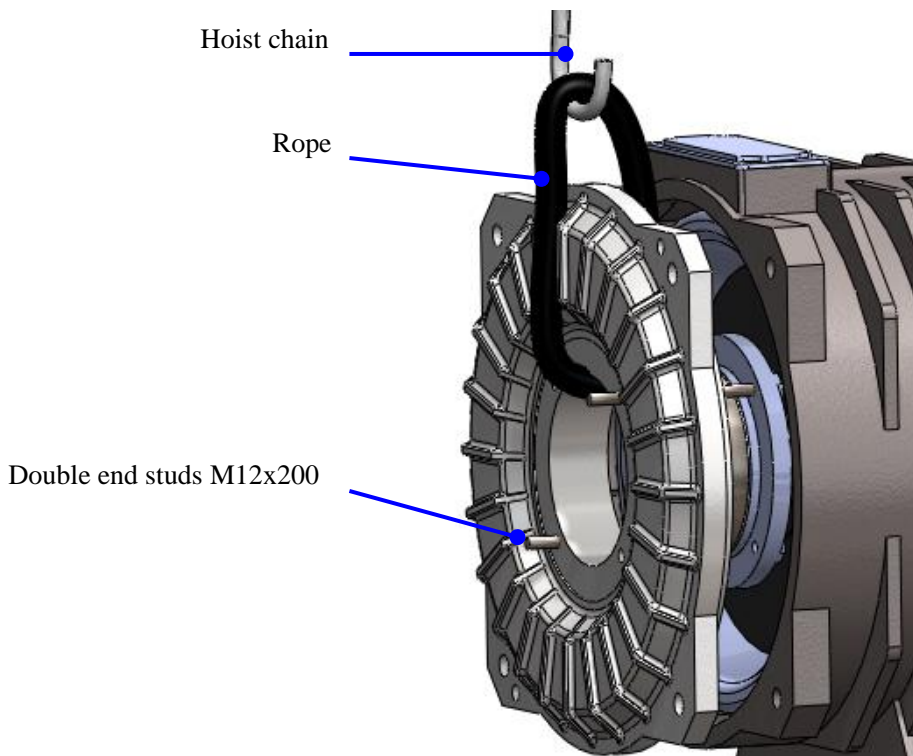

Figure 106: Install double end studs and lift back cover
4. Use a pair of double end studs M12x200 tightened into the threaded holes in the inside cover opposite each other. See Figure 106.